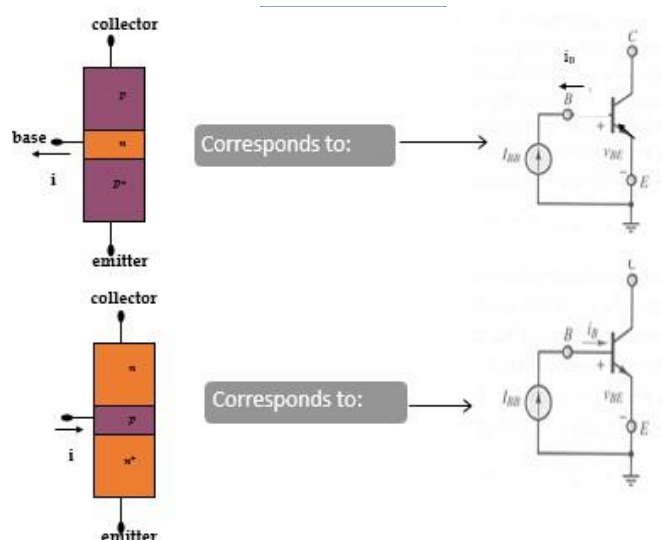

Figure 3.3 BJT schematic representation
- The BJT schematic representation is shown in Figure 3.3.